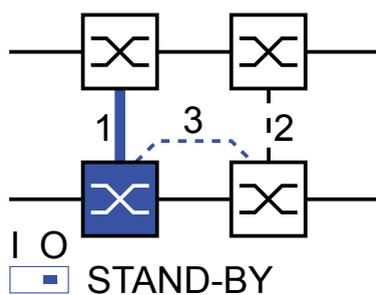

Figure 34: Two-Switch coupling with control line
- Select „Two-Switch coupling with control line“ by means of the dialog button with the same graphic as below (see fig. 34).